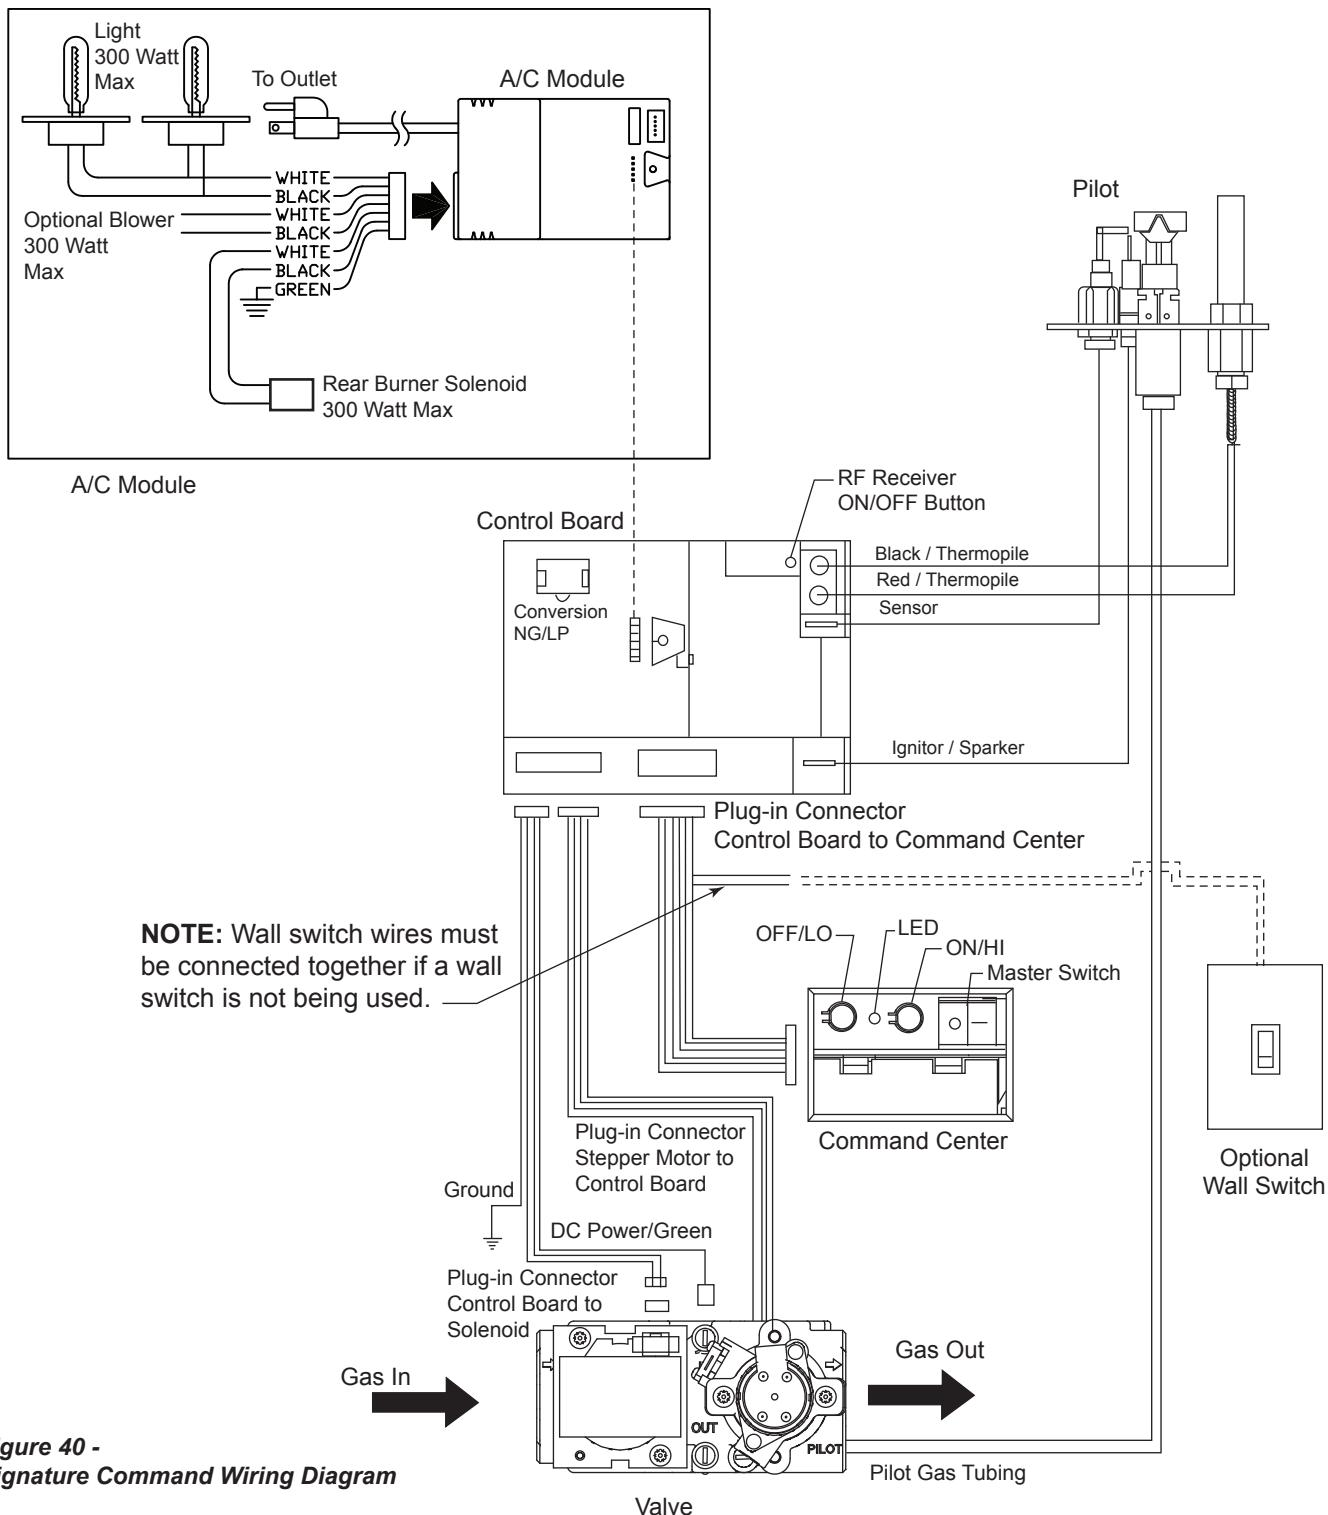

Figure 40 -
The wall switch wire connection is located off the 2 ft. wire harness from the control box to the command center. *Figure 40*. The connection is labeled "Wall Switch". Unplug the male and female connectors and connect the two (2) low voltage wires provided. Run wire to desired location on wall. Up to 50 ft. of 18 ga. wire may be used if necessary. Attach wires to wall switch. Mount the wall switch in to junction box and screw on cover.